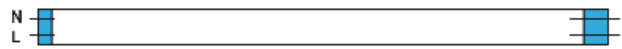

Figure 2. Single-sided connection
7. EIKO LED T8 lamps are designed for single sided connections only (Figure 2). To install, please wire non-shunted sockets by connecting one wire from the lamp holder to branch circuit L (LIVE) and the other wire at the opposite end to the branch circuit N (NEUTRAL). Do not connect opposite side to power. Use appropriate wires for connection.